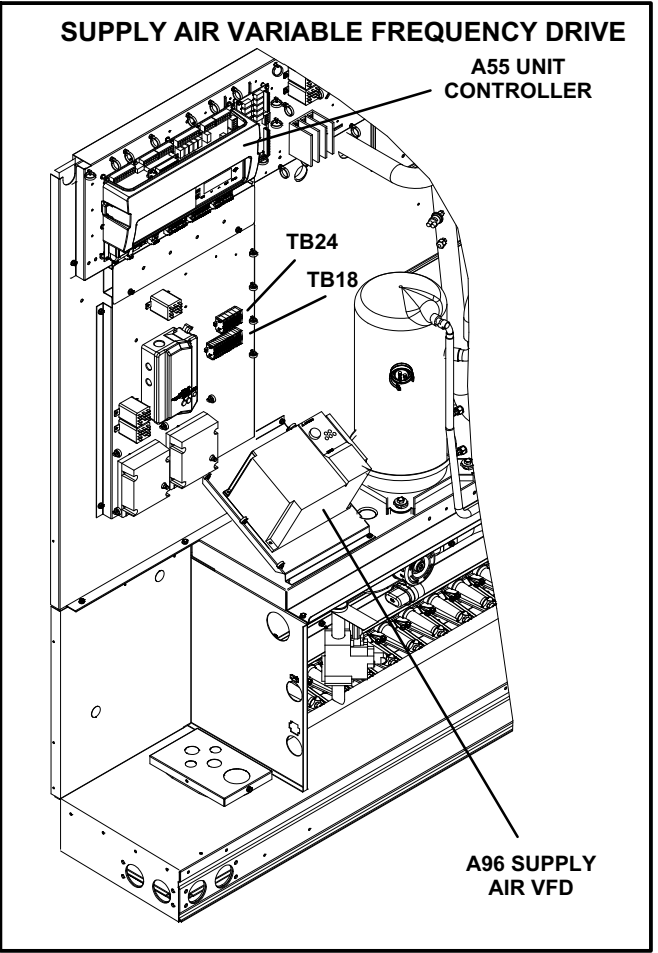

FIGURE 29
The supply air VFD (A96) is located near the compressors. See figure 29.
- 4- Locate the A55 Unit Controller. Refer to figure 29.